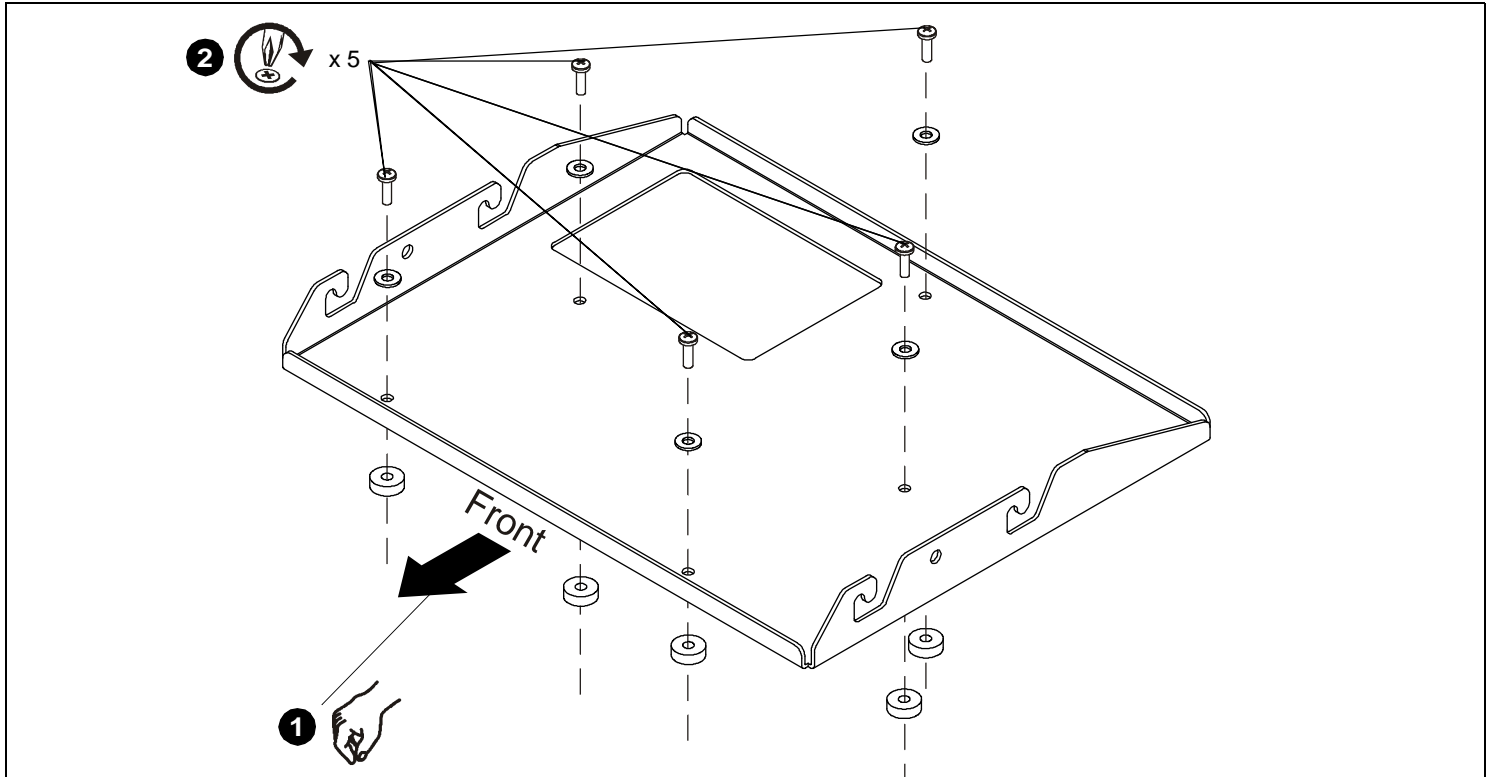

Figure 1
1. Lower custom HB bracket onto top of projector. Ensure that bracket front points toward front of projector. (See Figure 1)
2. Attach HB bracket to projector using five M6 x 20mm Phillips pan head screws, five M6 flat washers and five spacers through five holes in the HB bracket. (See Figure 1)